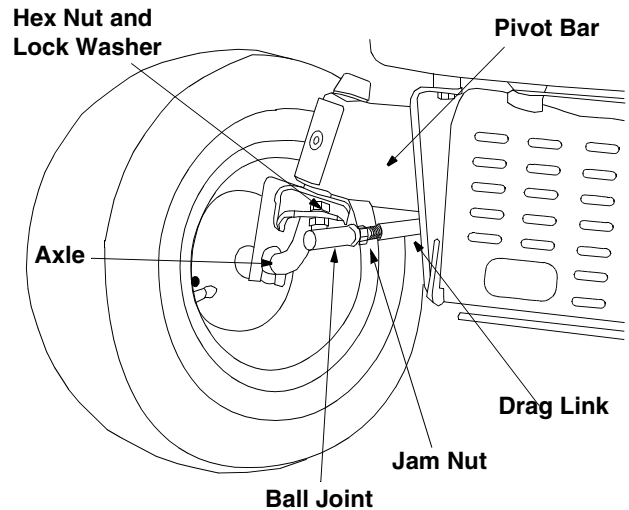

Figure 9
- Loosen the jam nut found on the drag link at the rear of the ball joint. See Figure 9.
- Remove the hex nut and lock washer on the top of ball joint. See Figure 9.